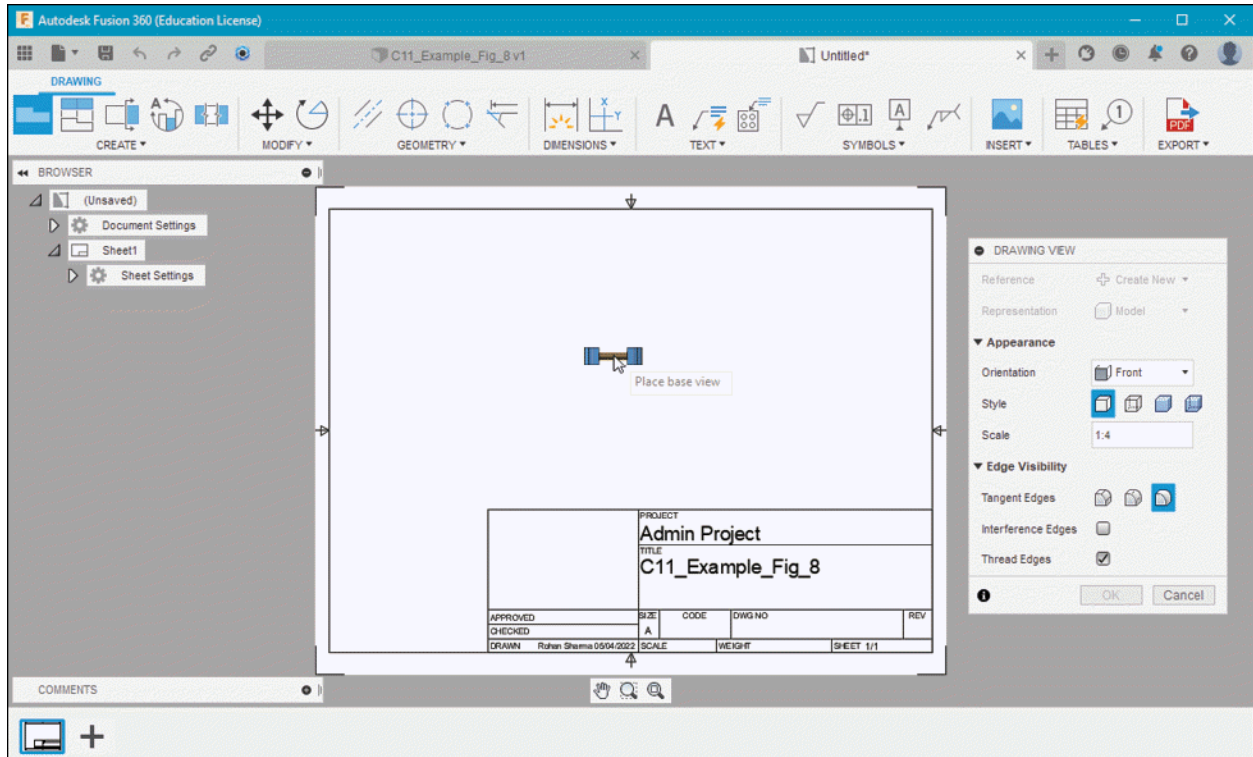

Figure-2. DRAWING workspace
- After specifying the parameters, click on the **OK** button from **CREATE DRAWING** dialog box. The **DRAWING** workspace will be activated along with **DRAWING VIEW** dialog box in a new drawing file; refer to Figure-2.